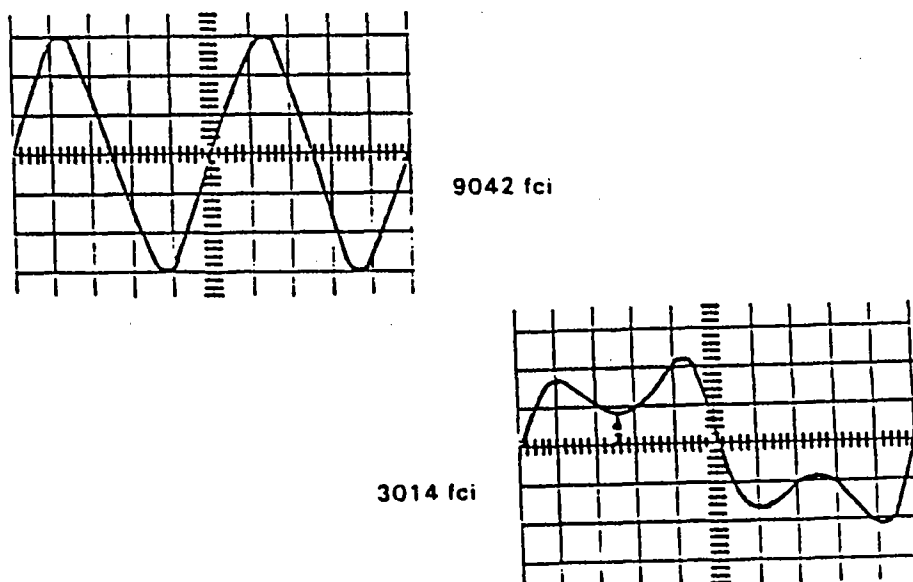

Figure 5-6. GCR Read Output 9042 fci, 3014 fci
5. While writing at 9042 fci, adjust the vertical sensitivity of the scope so that the read output spans exactly 6 major divisions. Refer to Figure 5-6.
6. Write at 3014 fci (tester switches 1 and 4 to the right) and adjust the GCR current pot until both top and bottom dips are 4 minor divisions as shown by the arrow in Figure 5-6.